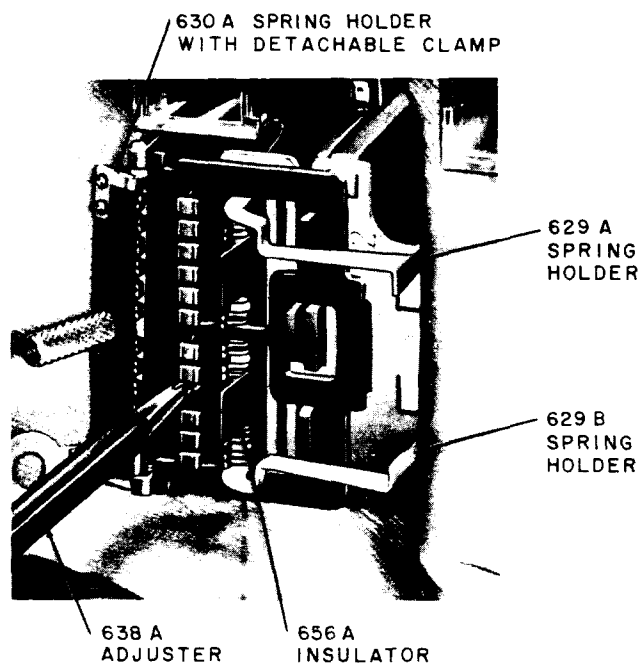

Fig. 11—Aligning Tang of Fixed Contact
**4.31 *Contacts on Fixed Springs:*** If the sides of the U-shaped contact welded on a fixed spring are not in line vertically with the sides of contacts on other fixed springs in the row, align the sides of the U using the 638A adjuster for the contact on all except 286-, 287-, and 288-type relays (P-10A949 contact) and the 638B adjuster for the contact on 286-, 287-, and 288-type relays (P-19A353 contact) as follows. Place the slot in the end of the 638A adjuster on the side of the U to be adjusted as shown in Fig. 11. Hold the